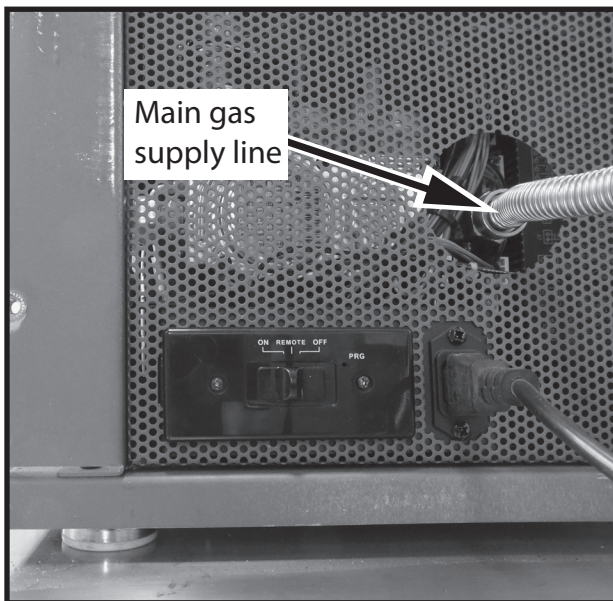

Figure 61: Removing the main gas supply line.
11. Disconnect the main gas supply line (Figure 61).